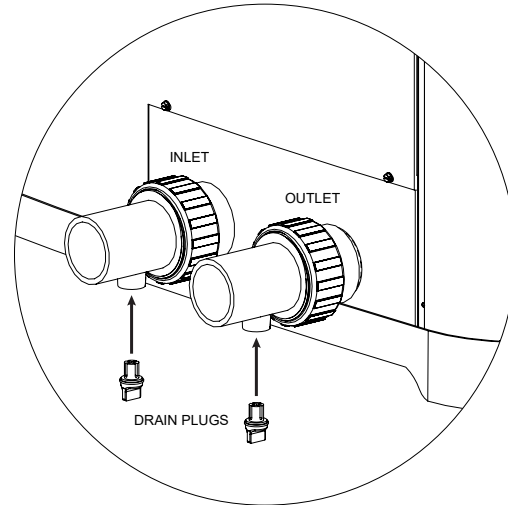

Figure 66. Drain Plug Locations
2. With the pool pump OFF, close the external shut-off valves and remove the drain plugs located in the inlet and outlet water unions to allow water to drain. See Figure 66.